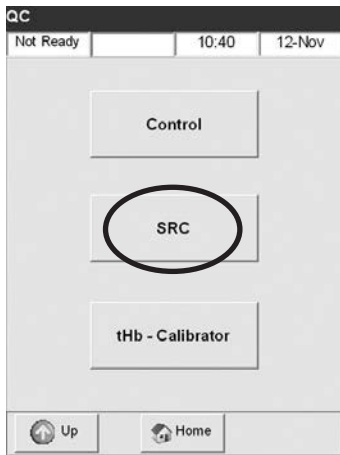

Fig. 4-1 Select SRC
2. Select **<SRC>** (Fig. 4-1).